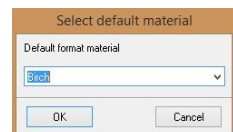

Fig. 36 – selection of default material
4) **‘Default format material’** – opens **‘Select default...’** window (Fig. 36), where you can define the material the formats are made from.